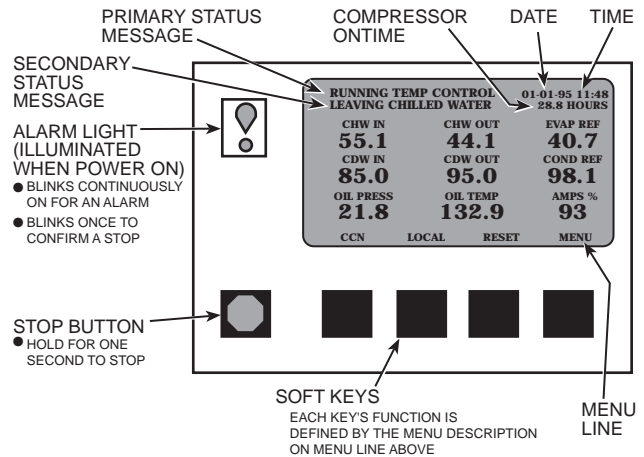

Fig. 12 — CVC Default Screen
- The CVC display automatically reverts to the default screen after 15 minutes if no softkey activity takes place and if the chiller is not in the pumpdown mode (Fig. 12).